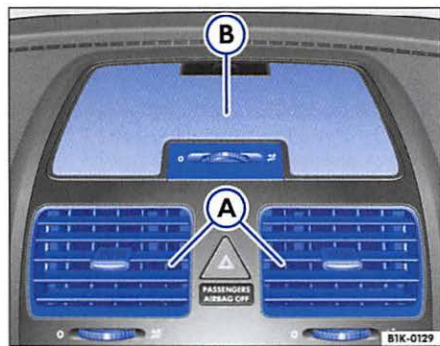

Fig. 77 Central air outlet (A) and air outlet (B) for indirect ventilation
In manual operation, press the button **23** to obtain draft-free ventilation. The ventilation is indirect, if you close the air outlets ⇒ fig. 77 (A) and open air outlet (B) using the thumb wheel. ◀